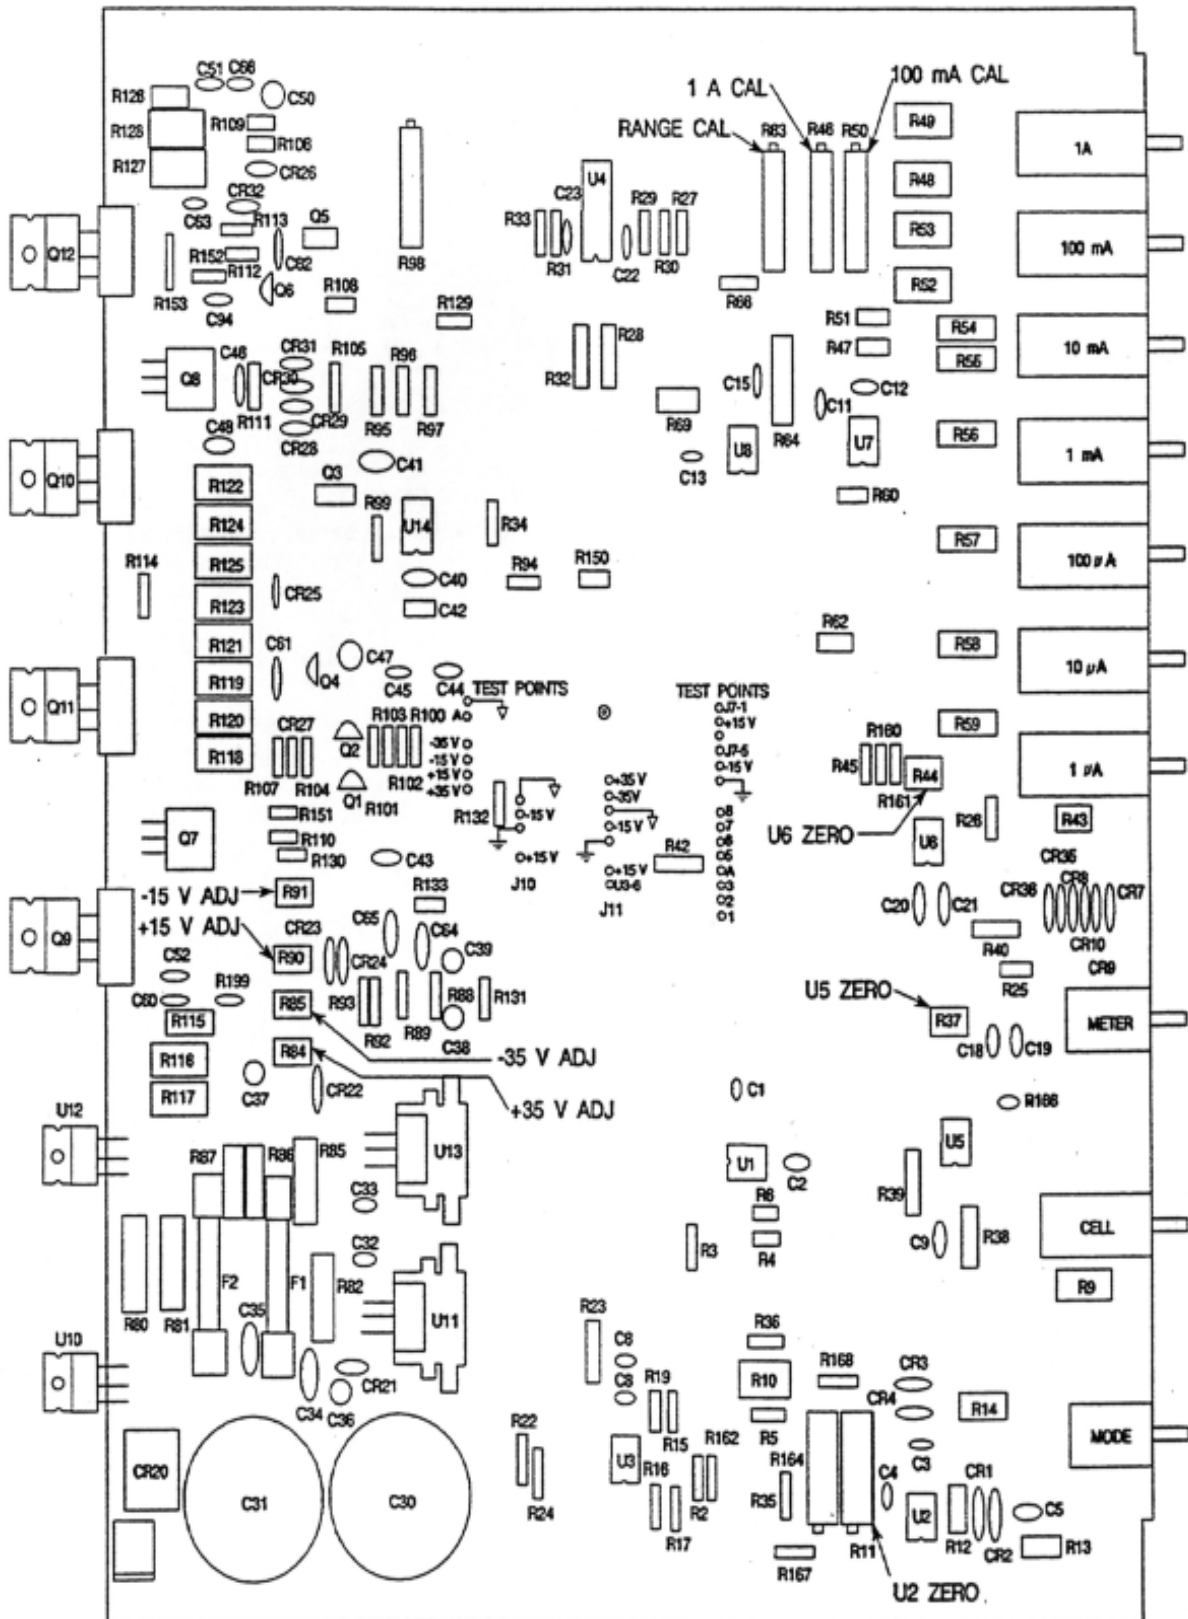

Fig. 11. Location and Adjustment of Main Board Test Points.
Throughout the procedure, service personnel are asked to make measurements at specific test points. Most of the test points are in one of three locations. The first two are located on the Main Board. Viewing the instrument from the front, note that the first row of test points is located at the center of the printed circuit board and about one third of the way back. The second row is located a little further back to the right of center. The circuit monitored by each test point in the front row is indicated by lettering on the printed circuit board. For example, "1" identifies the test point that connects to the output of U1, "2" identifies the test point that connects to the output of U2, and so forth. "A" designates the test point that connects to the output of the Control Amplifier. Some of the test points in the second row are also identified by lettering on the printed circuit board. These two sets of test points are identified in Fig. 11. Note that power cannot be taken from the power supply monitor points; there is an internal 1k $\Omega$  resistor in series with each.
1. Locate the power supply monitor test points on the Main Board (Fig. 11).